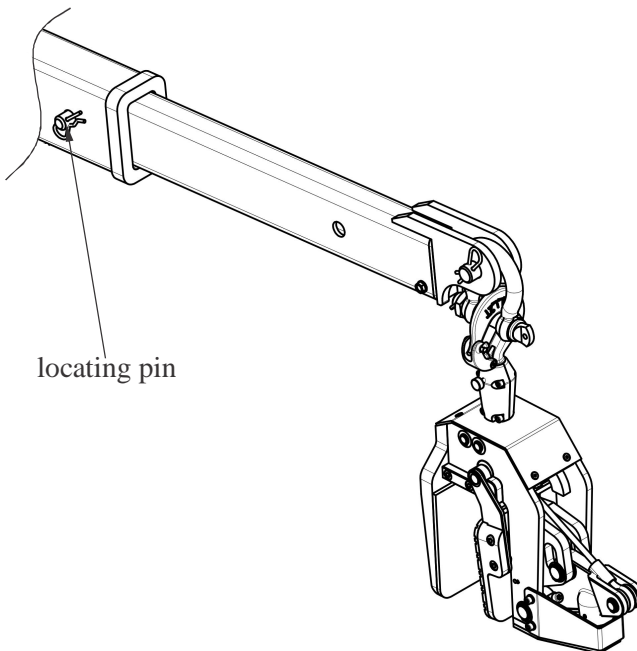

Figure 1
- Hook Abaco Arcturus Lifter to the forklift boom (figure 1).